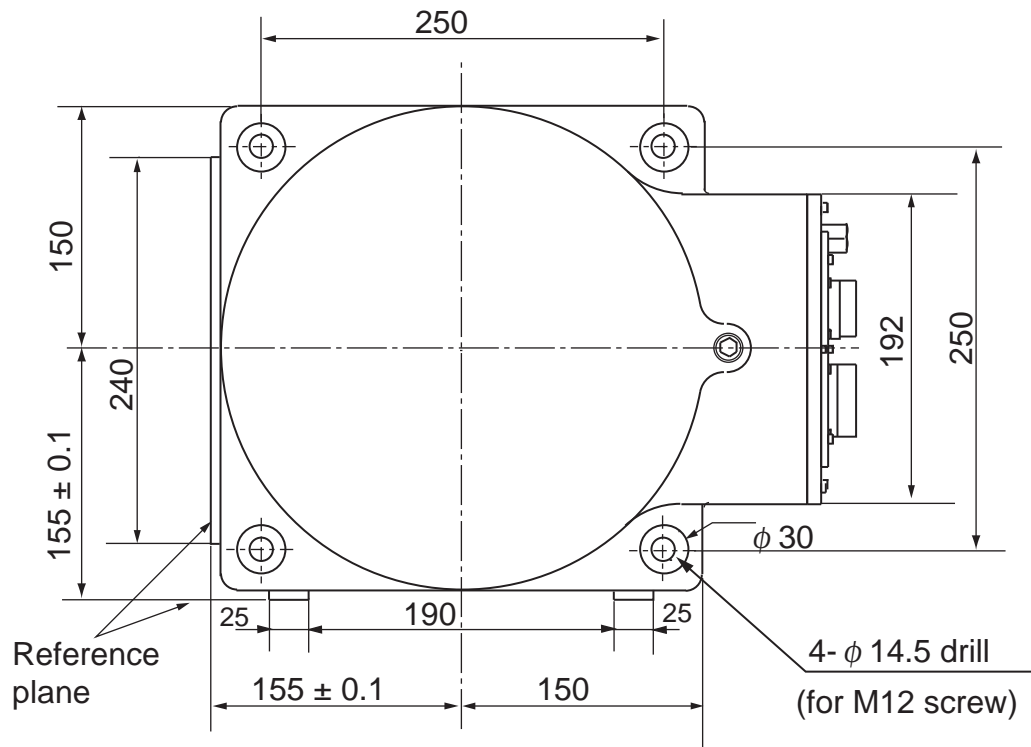

Figure 2-2. Mounting Hole Pattern for Robot
1. See Figure 2-2 for the dimensions of the mounting holes in the robot mounting position where the robot unit is to be secured.